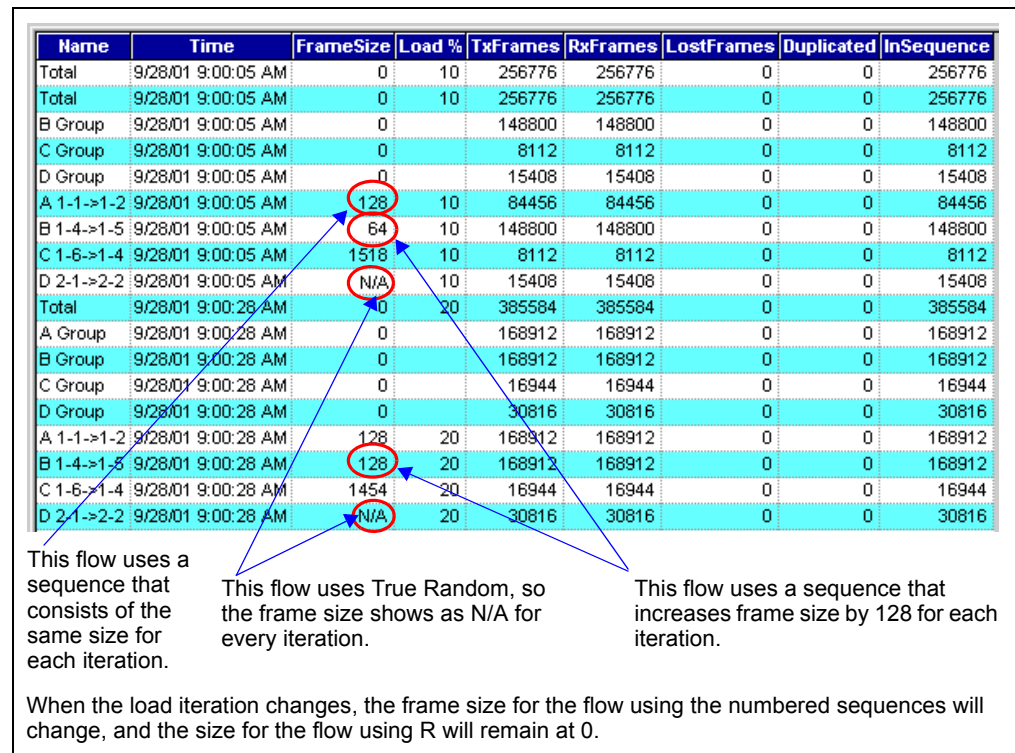

Figure 8-15. How Custom Frame Sizes Affect Test Results - Frame Loss Example
For any flows that use true random (R) frame sizes, the *FrameSize* field shows zero, since each frame of the flow will be a different size. Group totals also show zero for this column—regardless of whether or not True Random was used—because each flow may use a different frame size. *Figure 8-15* illustrates this scenario.